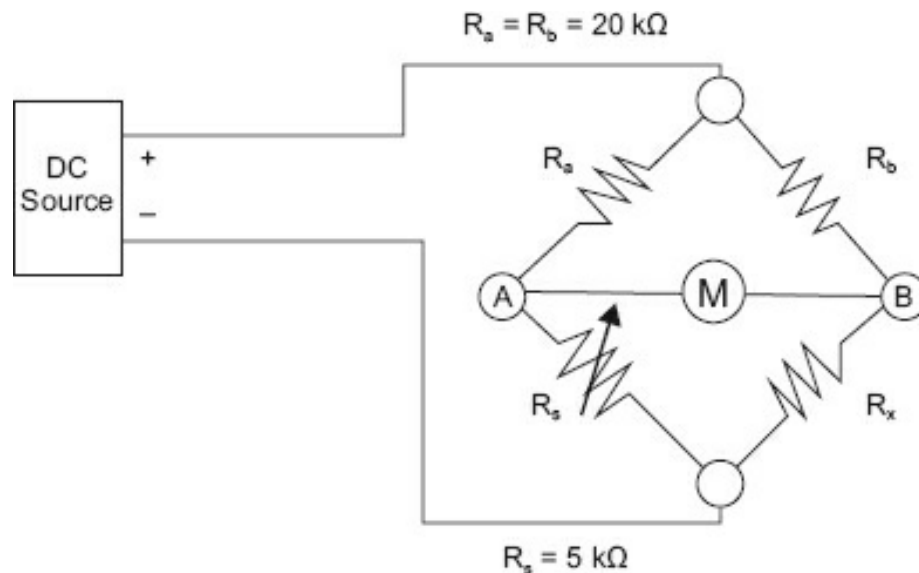

Figure R4-1.
1. Using Figure R4-1, fill in the blanks for A, B, and C.